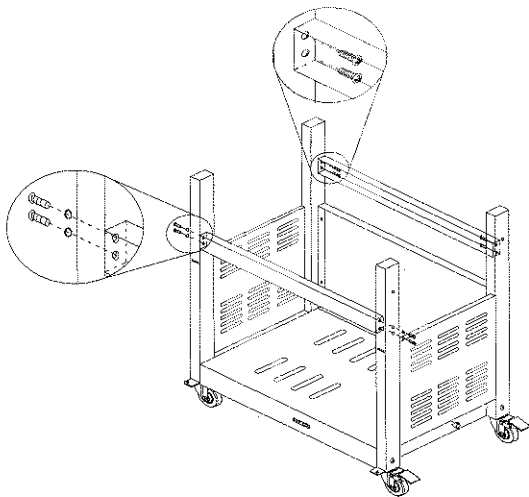

Figure 5
5. Attach front beam to side panels by using  $\frac{1}{4}$ " x 35mm philips and back beam to side panels by using  $\frac{1}{4}$ " x 15mm philips head screws. (Fig.5)